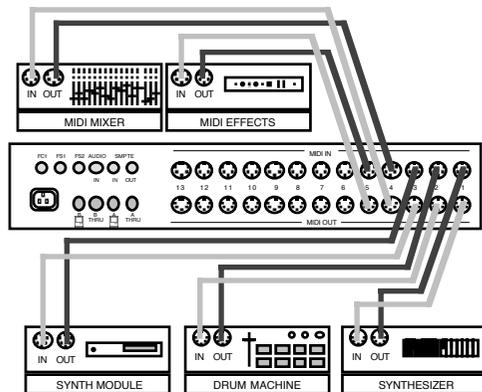

Figure 3.6: MIDI Connections
Connect a MIDI device's MIDI input to a Studio 5 MIDI OUT port. Connect the like-numbered Studio 5 MIDI IN port to the device's MIDI output. Figure 3.6 shows some typical MIDI connections.
*NOTE: If you wish to retrieve patches from a device using Opcode's Galaxy program, you must connect that device's MIDI IN and OUT ports to identically-numbered ports on the Studio 5 (as shown in Figure 3.6).*